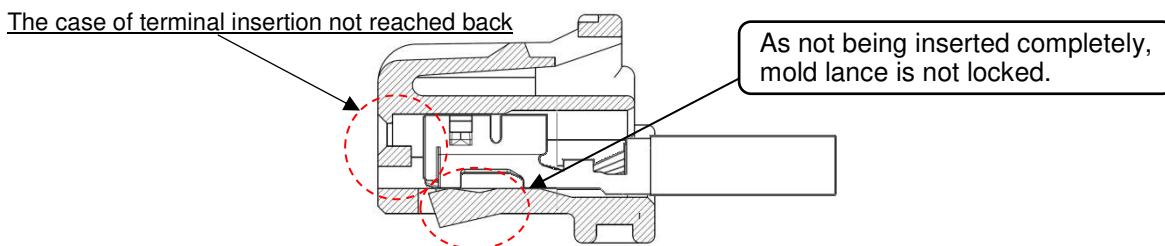

Fig.6-5 The case of incomplete insertion
- ※In the area of incomplete insertion (see Fig.6-5), terminal lance is transformed the most. (Therefore, mold lance of harness with such condition is transformed and not go back to correct position, resulting in degradation of retention force even though it is re-inserted.) In this case, please be sure to change with a new terminal.
- ⑤ When checking harness after processing, please avoid bending wire excessively or with tension. That might cause contact failure because force was added to terminal crimping part or receptacle housing lance part.
- ⑥ When having a conduction check, do not attach anything besides applicable mating connector. That might cause contact failure because of transformation of terminal etc.